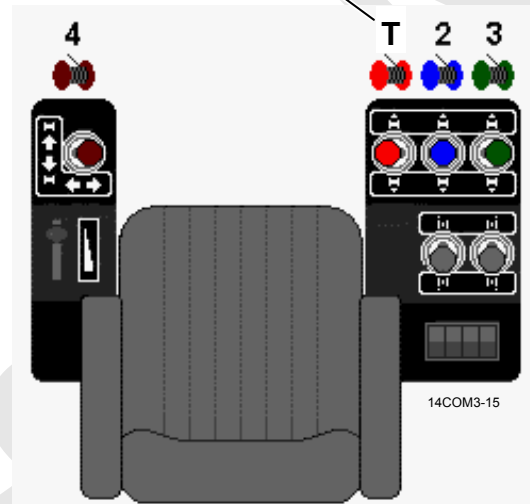

FIGURE 3-17
7. After engine is started, cab seat with handles appears as shown in Figure 3-17. Use display buttons to select the crane configuration, then press Confirm button to select configuration.